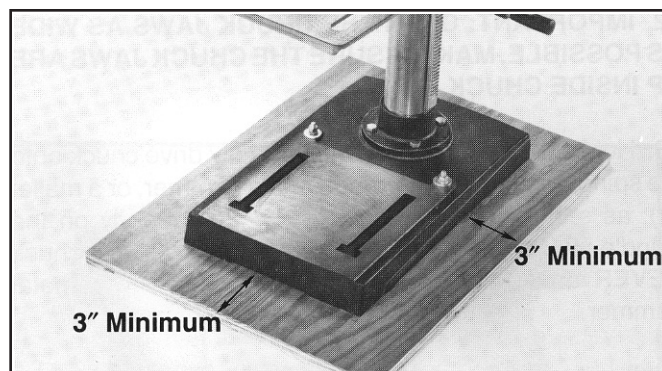

Fig. 12C
3. When the drill press is mounted to the supporting board, the board must extend a minimum of 3" beyond each edge of the drill press base, as shown in Fig. 12C.